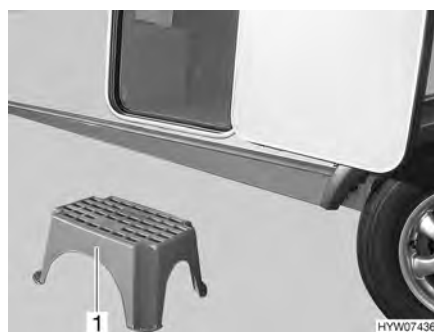

Fig. 20 Entrance step (free-standing)
- Place the entrance step (Fig. 20,1) in front of the entrance to the caravan.